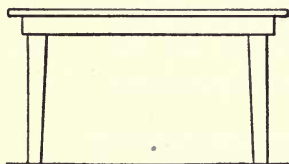

FIG. 104.
2. To what stress are the legs of the table subjected in Fig. 104?